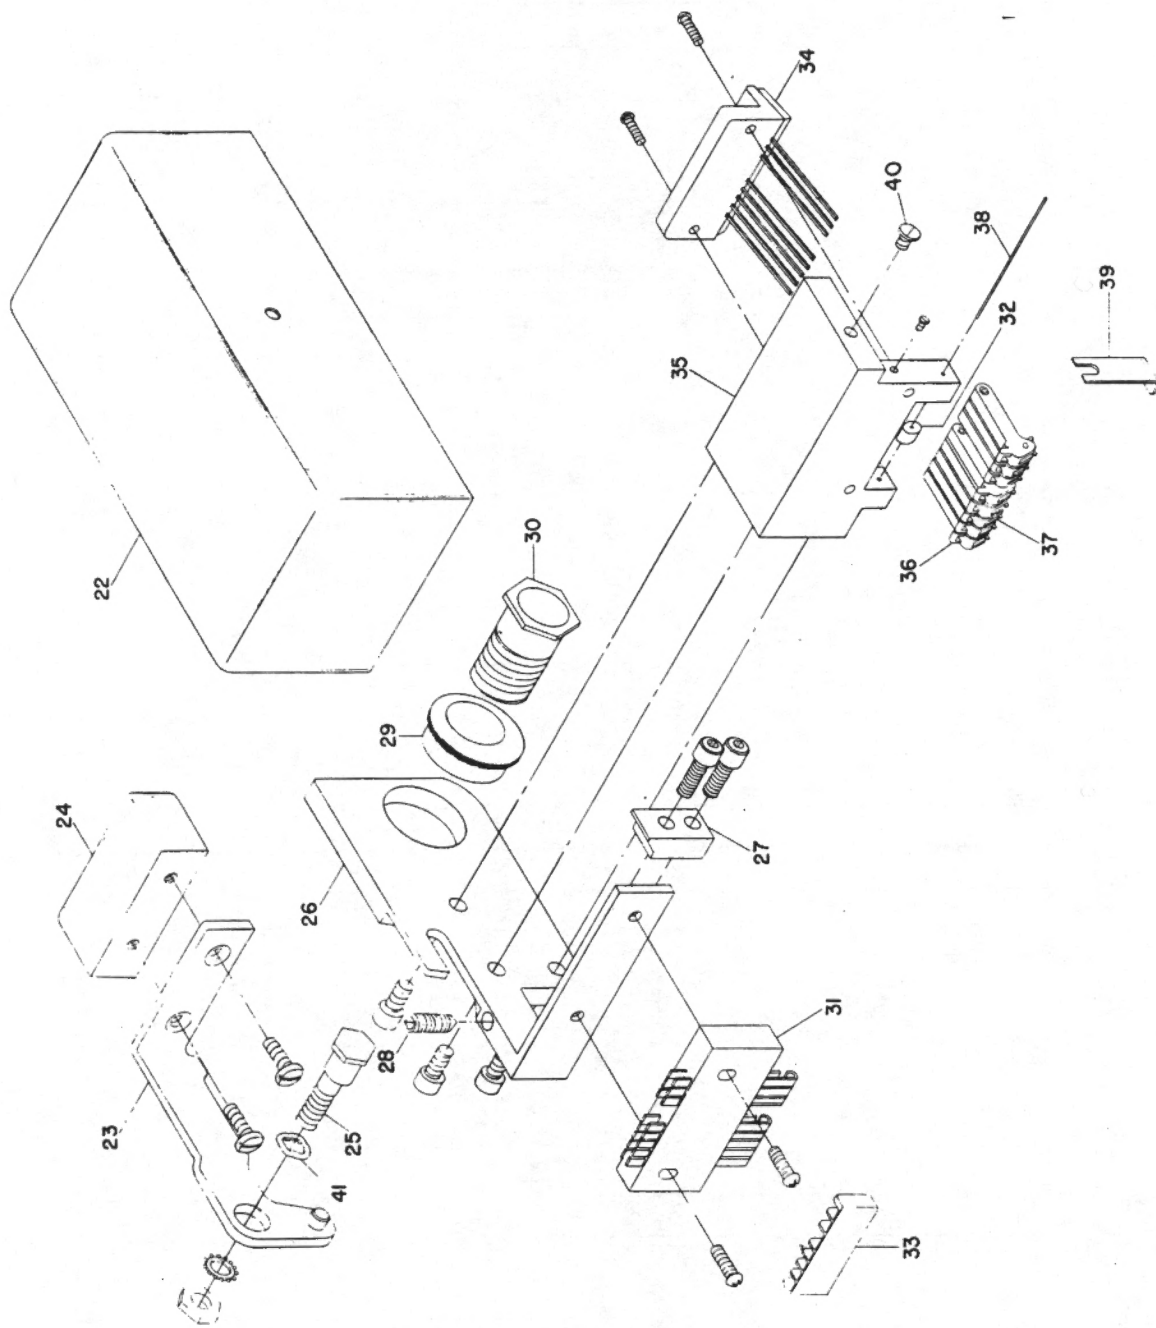

Figure 13. Tape Read Head, Exploded View
5.2.3 Read Head and Contact Adjustments (See Figure 13)
Insert no-hole tape in the read head, and apply down force on the wires with the gram gage and wire tool to check upper contact pressure as shown in Figure 14b. Upper contact pressure is increased by lowering the read head through use of the depth adjusting screw (28) Figure 13, and the lever eccentric (25).
The lift lever should be adjusted so the lifting stud passes over center with the lever down firmly against the base plate. If adjustment is required, loosen the eccentric bolt, and turn the eccentric (25, Figure 13) so the lever locks over center.